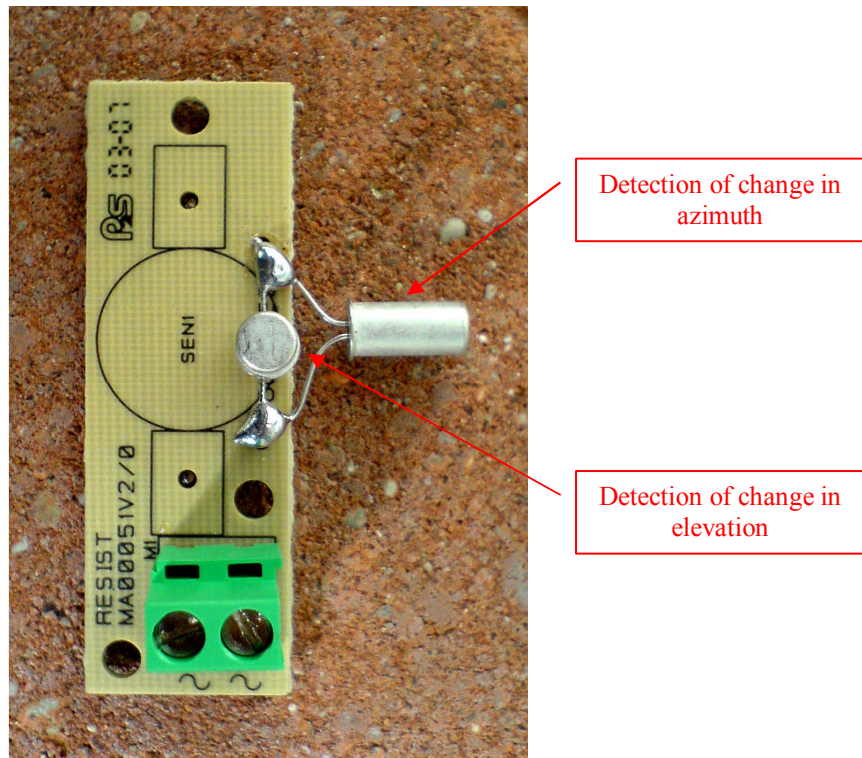

Fig. 8.1 Antenna orientation change sensor
6. Setting the sensors of antenna orientation in such a position that any change in the orientation of the antenna will cause the triggering of the sensor and sabotage indication (Fig. 8.1).